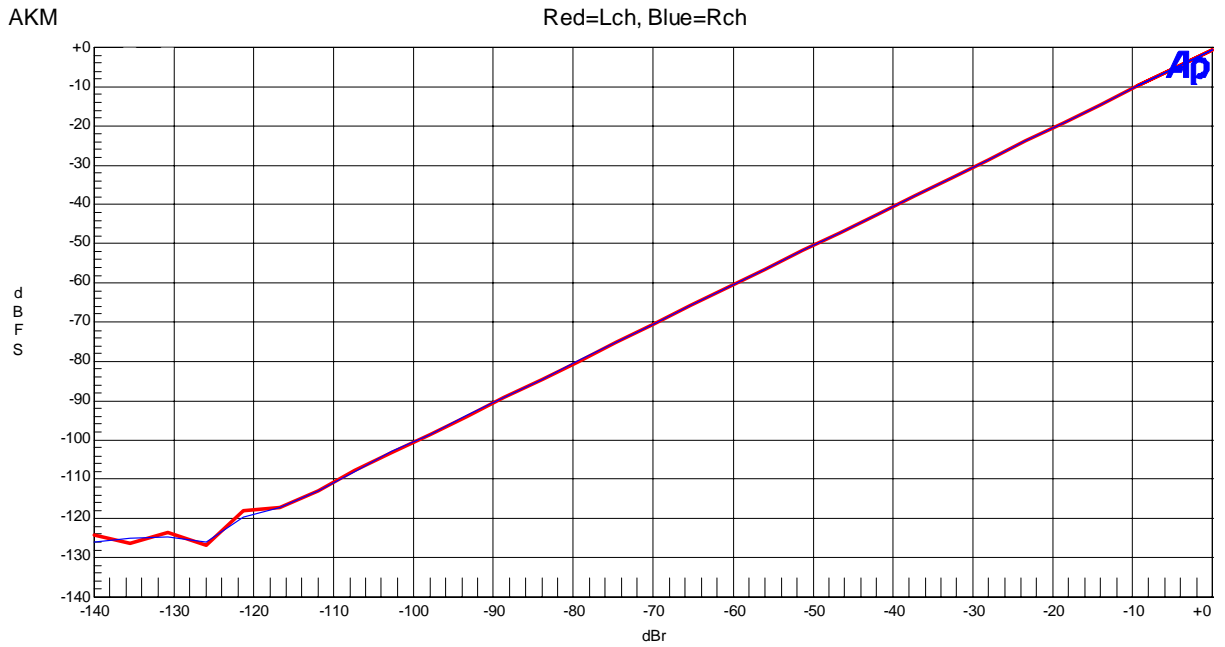

Figure 20 Linearity (fin=1kHz)
- Figure 20 Linearity (fin=1kHz)